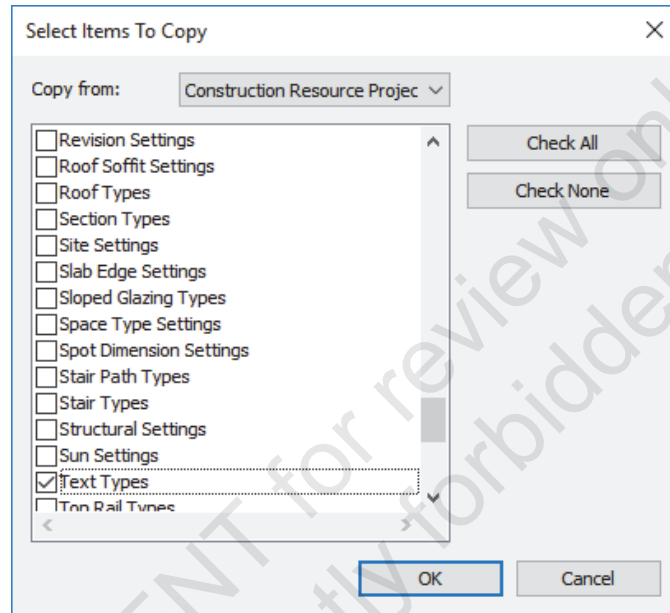

Figure 1–28
12. Click **Check None**, select **Text Types** (as shown in Figure 1–28), and click **OK**.